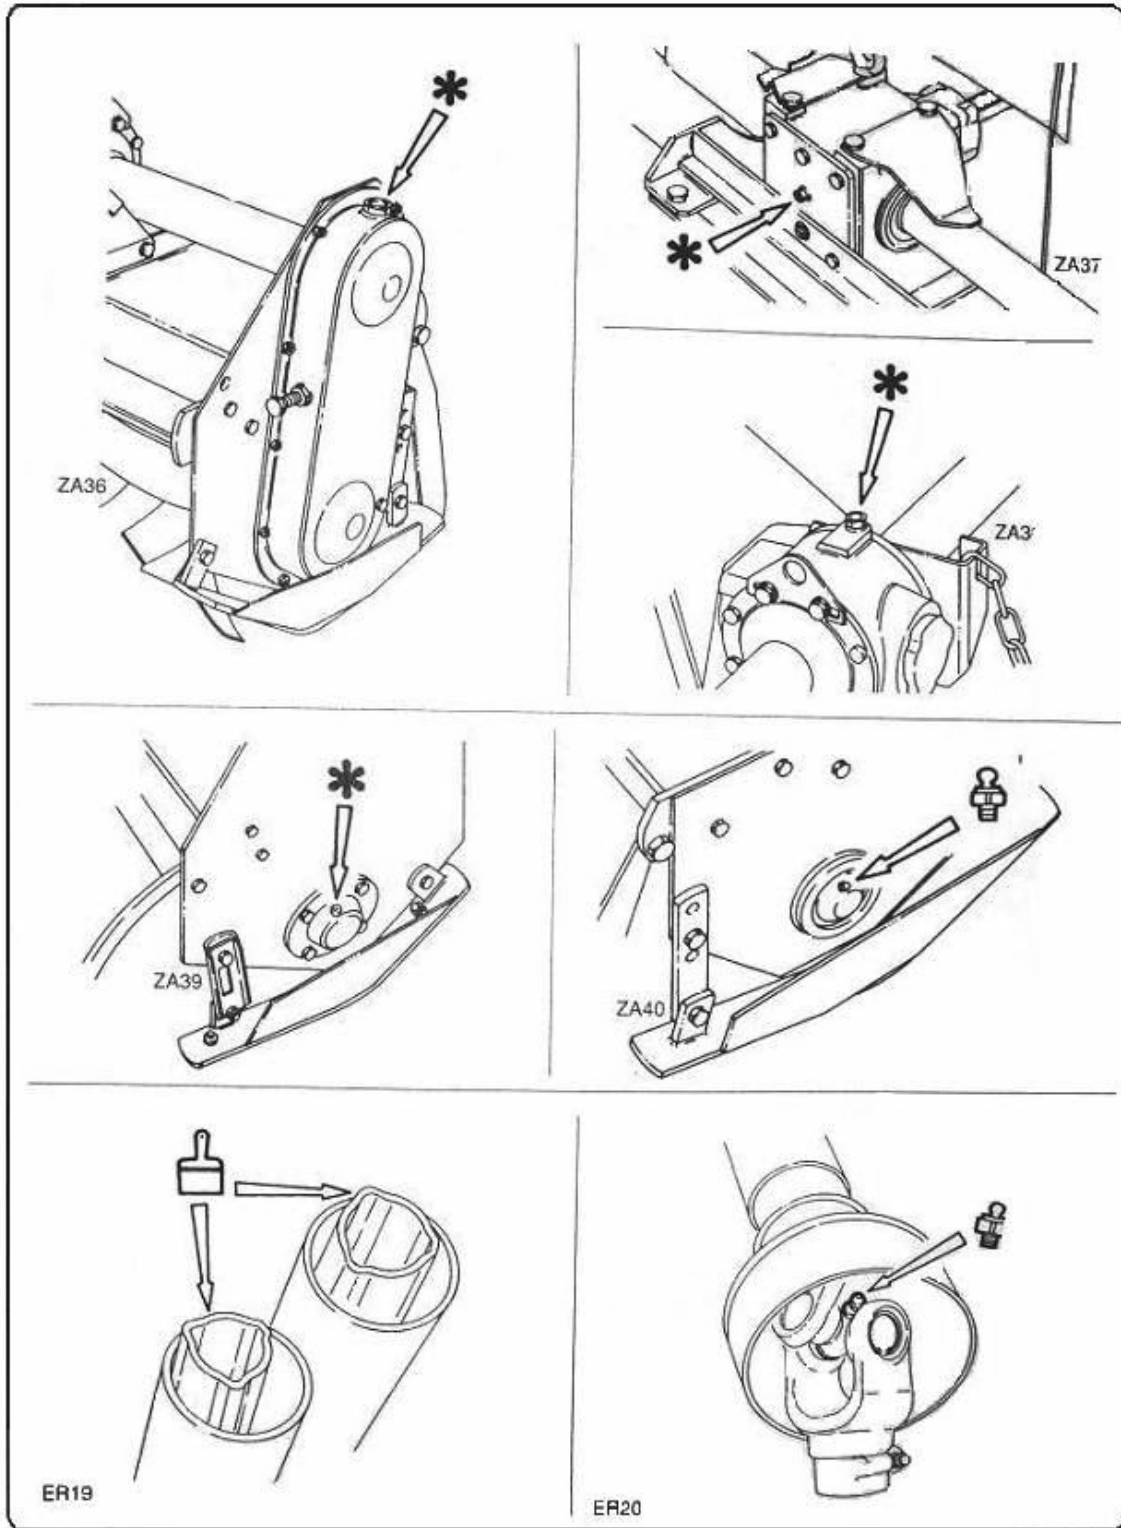

fig. 7.6.1
7.6 - Lubricating and greasing points fig. 7.6.1 and 7.6.2